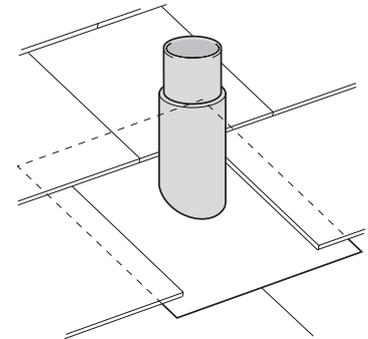

Fig. 20a Step 1
Step 1 – Position purpose-made weathering slate on open end of soil stack (Fig. 20a)